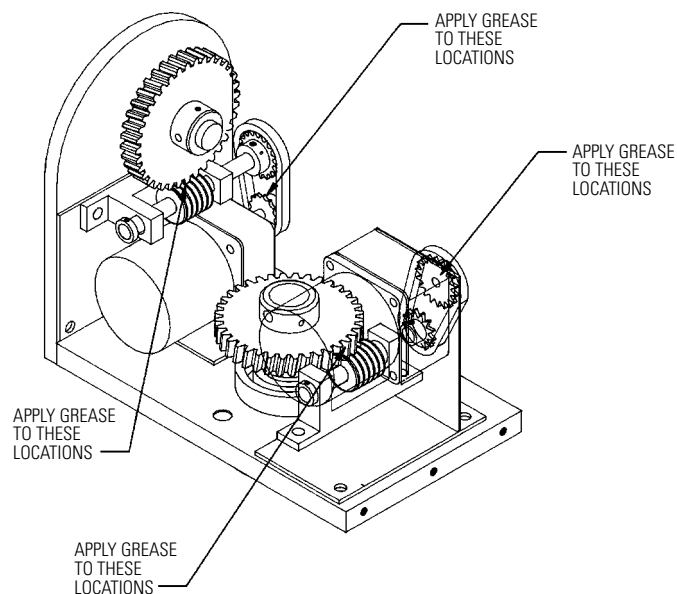

Figure 5. Servicing the Pan and Tilt Drive and Worm Gears
1. Liberally apply grease to the pan and tilt drive gears, worm gears, and sprockets (refer to Figure 5).